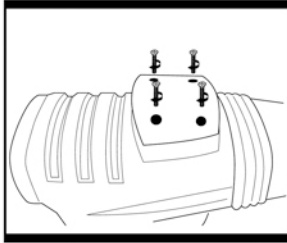

Fig. 10
11. LUBRICATION OF THE TOOL (Fig. 10)